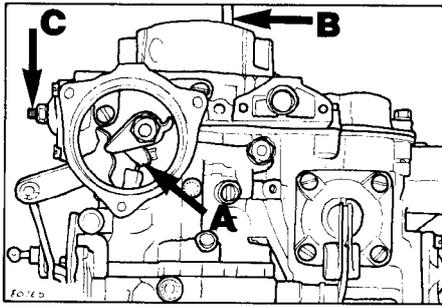

Fig. 4 Choke plate pulldown
- a) Partially open throttle, hold choke plates fully closed and release throttle. The stepped cam (A) should be at the highest stage as shown in Fig. 4.
- d) Check clearance between lower edge of choke plate and air intake wall using drill (B) of suitable diameter.
- e) If necessary, adjust clearance with adjusting screw (C, Fig. 4).